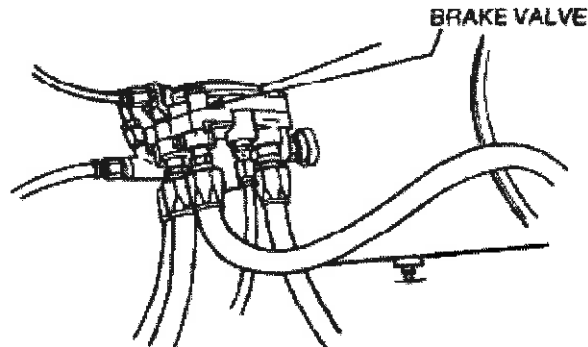

Figure 26 Service Brake Relay Valve (CA38)
- d. Tag and remove the six service brake air hoses from the relay valve (Figure 26).